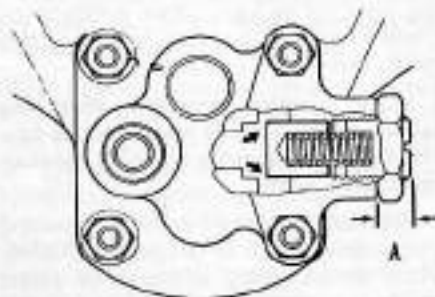

Fig. 75 - Turn adjusting screw in until end of screw is 9.902 mm (0.39 inch) (A) from pump body and secure locknut.
When reassembling pressure relief valve, screw adjusting screw (13 - Fig. 73) in until 9.9-9.95 mm (0.389-0.3916 inch) protrudes from housing. See Fig. 75. Install locknut (12) and tighten securely.